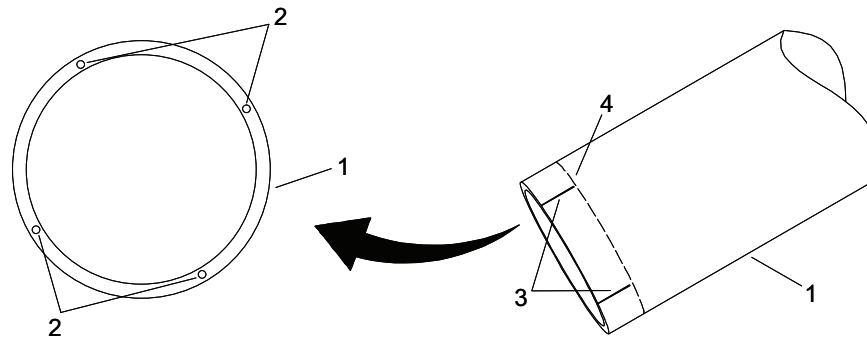
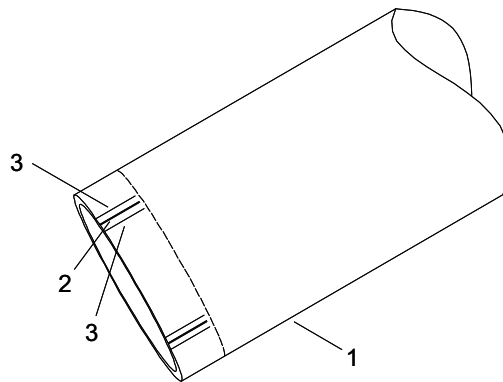

Figure 14. Hose Assembly Repair.
Figure 15. Hose Assembly Repair.
1. Place drip pan under hose assembly (Figure 14, Item 1) to be repaired.
2. Inspect hose assembly (Figure 14, Item 1) to identify the extent of damage.
3. Using a knife, remove the damaged portion by cutting the hose assembly (Figure 14, Item 1) on both sides of the damaged area. Discard damaged hose assembly (Figure 14, Item 1) fabric.
4. Locate the position of the ground wire (Figure 14, Item 2) in the hose assembly (Figure 14, Item 1).
5. Using a marking pen, draw a line (Figure 14, Item 3) approximately 1 to 1-1/4 in., down the length of the hose assembly (Figure 14, Item 1) to show the location of each ground wire (Figure 14, Item 2).
6. Using a marking pen, draw a radial line (Figure 14, Item 4) around the hose assembly (Figure 14, Item 1) approximately 1 to 1-1/4 in. back from the cut end of the hose assembly (Figure 14, Item 1).
7. Using a knife, expose the ground wire (Figure 15, Item 2) by cutting the hose assembly (Figure 15, Item 1) fabric parallel to the length line (Figure 15, Item 3) previously marked not to exceed $\frac{1}{2}$ of the hose assembly thickness (be sure not to cut completely through the hose assembly fabric). Cut approximately $\frac{1}{4}$ in. (Figure 15, Item 3) on both sides of the length wise line (Figure 14, Item 3).